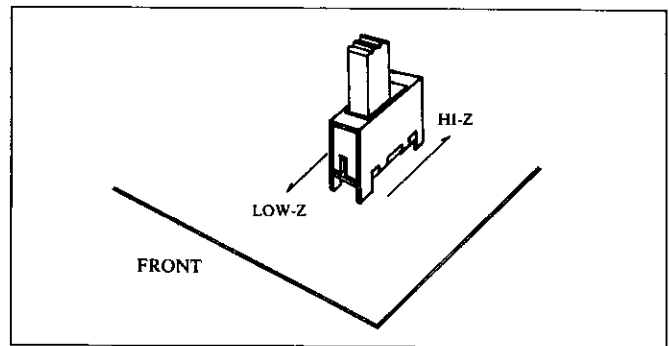

Figure 6—Relocating LO-Z/HI-Z Switch
- 2) Relocate switch to the LO-Z position, as shown in figure 6.